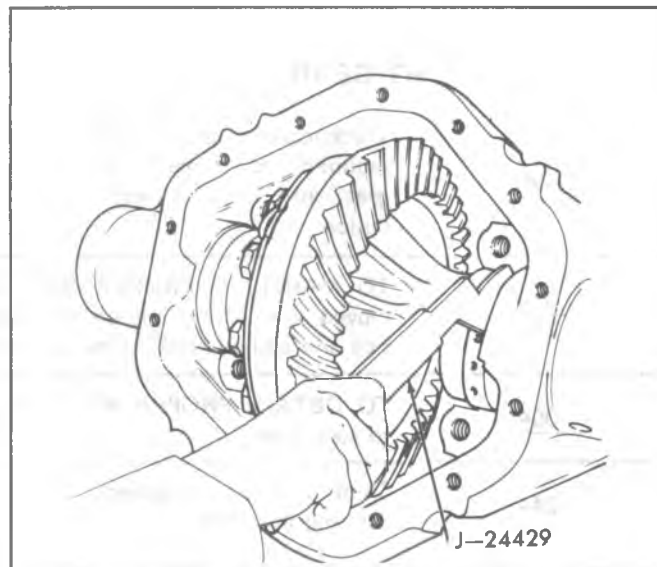

Fig. 4B1-27--Loosening Adjusting Nut
5. Thread end of J-8614-3 into small O.D. end of J-8614-2. Then with J-8614-11 installed as in step 3, insert J-8614-2 into J-8614-11 and turn it 1/8 of a turn to locked position. Remove flange by turning J-8614-3 while holding J-8614-11 as shown in figure 4B1-29.